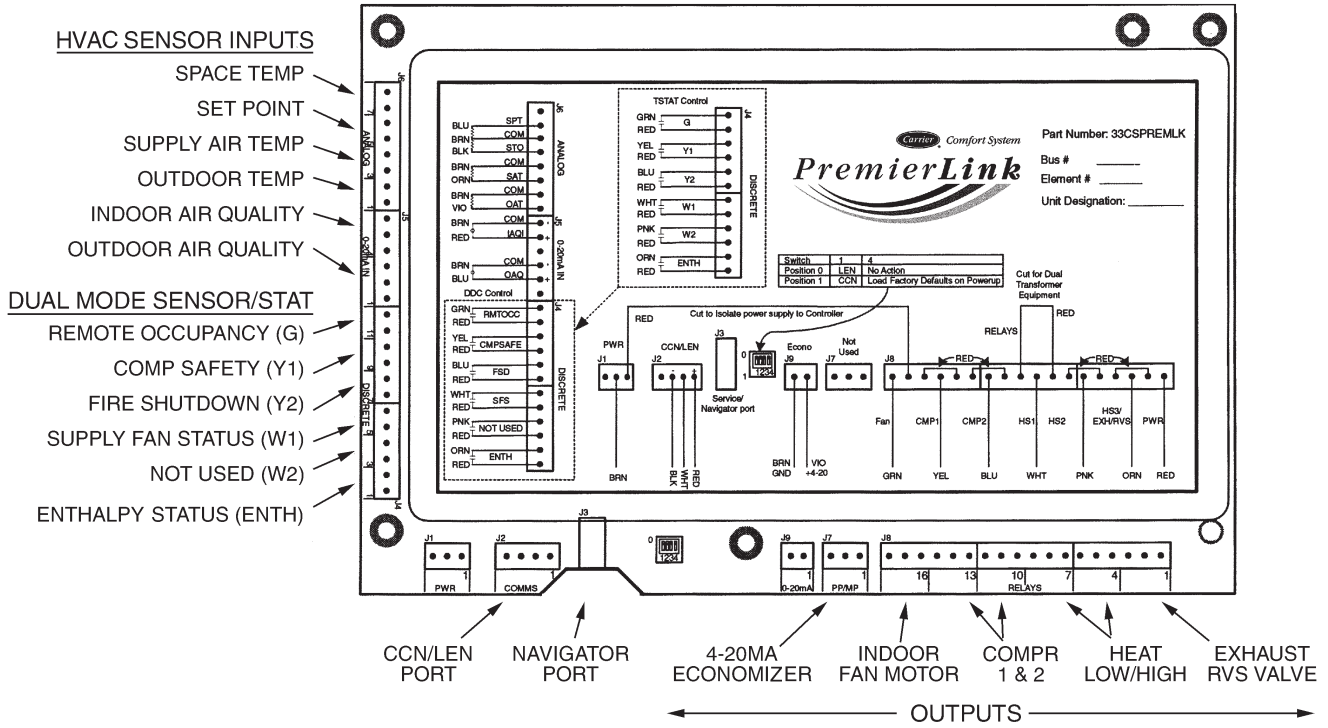

Fig. 34 - PremierLink Controller
The PremierLink controller (see Fig. 34) is compatible with Carrier Comfort Network® (CCN) devices. This control is designed to allow users the access and ability to change factory-defined settings, thus expanding the function of the standard unit control board. CCN service access tools include System Pilot (TM), Touch Pilot (TM) and Service Tool. (Standard tier display tools Navigator™ and Scrolling Marquee are not suitable for use with latest PremierLink controller (Version 2.x).)